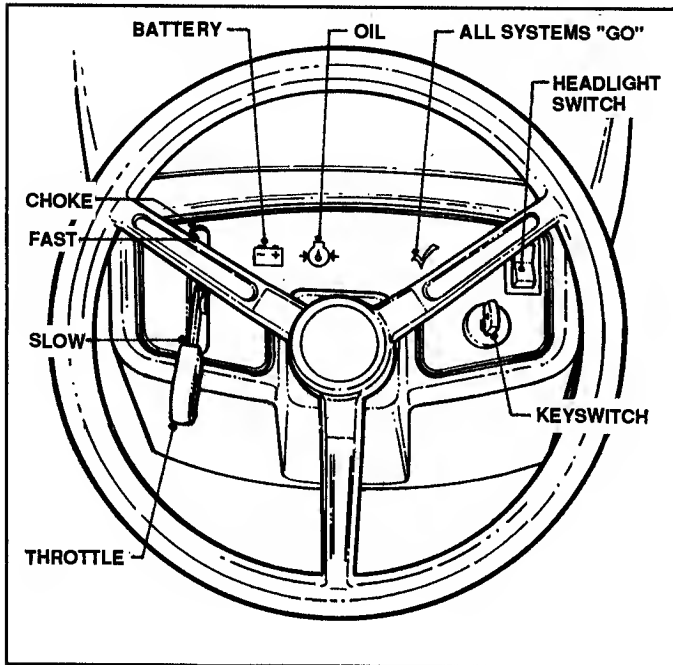

FIGURE 2
ENGINE: STOP ENGINE by turning the KEYSWITCH to "OFF". See Figure 2.
3. CHOKER ENGINE for cold starting by moving THROTTLE CONTROL to "CHOKE" position. (Little or no choking will be needed when re-starting a warm engine). Refer to Figure 2.